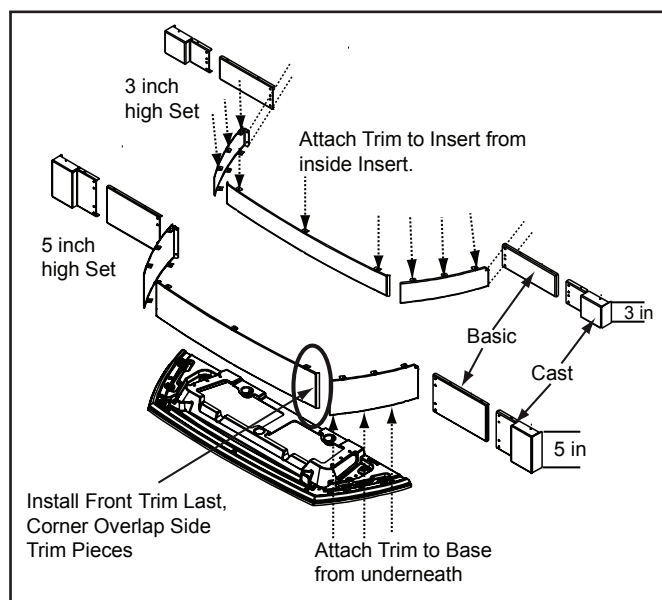

Figure 21.2
4. Lay the cast bottom face up. Attach the 2 sides FIRST and then the front piece. **Figure 21.2.**